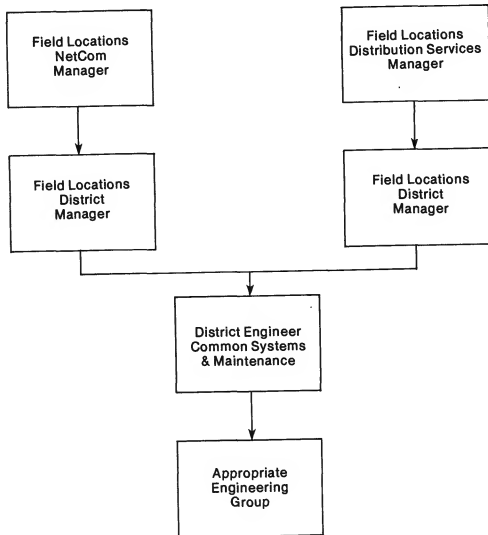

Fig. 2 — Routing, P-2185
- (c) Referred To - P2185s (Fig. 2) are routed from the Field Locations District Manager to the District Engineer who will route to the appropriate Engineering Group. The Equipment Engineering Group will:
- (1) Review the request to determine if the request is justified.
- (2) Determine whether type of equipment requested conforms to PNB technical standards.
- (3) See if request can be filled by transferring equipment from another field locations.
- (4) Determine if purchase of new equipment is required.
- (5) Maintain status of Form P-2185.
- (6) Forward approved P-2185s to proper implementing engineering group.
- (7) Review circuit changes, modifications and rearrangements.
- (8) Return completed form to the District Engineer.
5.04 Examples of possible routing of P-2185's originating in Distribution Services and NetCom Services are shown in Fig. 2.